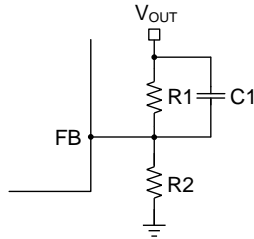

Figure 5: Feedback Network
The external resistor divider sets V_{OUT} . The feedback resistor (R1) also sets the feedback (FB) loop bandwidth with the internal compensation. Figure 5 shows the feedback network.